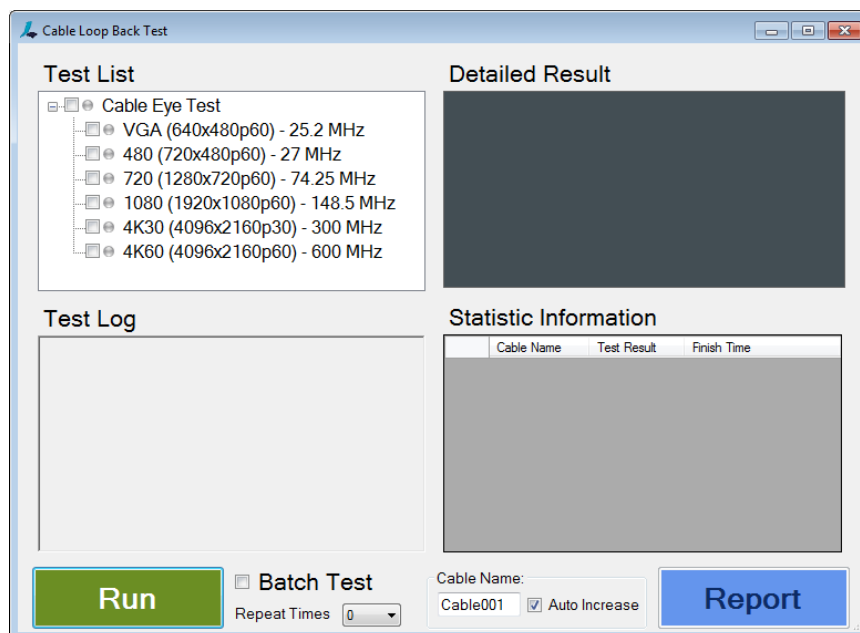

Figure 4.10. Cable Loop-back Test Windows
From the AVG software main window of your test computer (Figure 3.16), click Cable Loop-back Testing. The Cable Loop-back Test window appears (Figure 4.10).
If you want to run the test in single mode, be sure NOT to check the Batch Test checkbox (bottom area in Figure 4.10).
- When the Cable Loop-back test completes, you can get a formatted report file by clicking the Report button (Figure 4.10). Following is a sample report (Figure 4.14).
- Click Run (Figure 4.10).